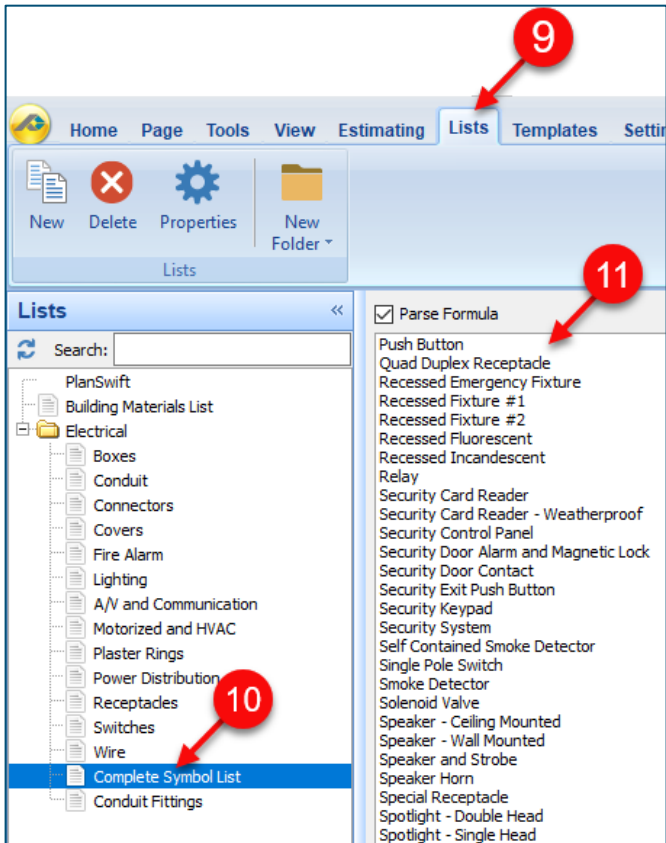

Figure 3
9. Click on the Lists tab (Figure 3) on the Main ribbon-bar menu.